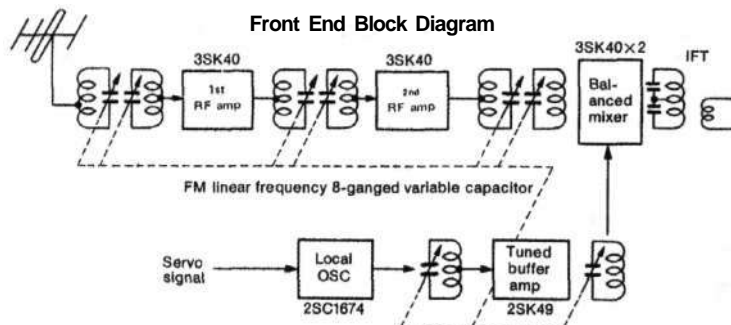

Figure 6: RF stage of the now defunct Technics "Professional Series" ST-9030 FM stereo tuner (from the good old days when front ends were front ends).
In the good old days, super tuners had super front ends. For example, the Technics ST-9030 had an eight-gang tuning capacitor and two RF amplifier stages (Figure 6). The ST-9030 had an image and spurious-response rejection of 135 dB because of this complex RF stage. The eight gangs added up the following way: One was for the local oscillator, and one was for a filter after the local oscillator to remove harmonics. Each of the RF stages had a double-tuned filter preceding it, as did the mixer. Each double-tuned section needed two gangs. A double-tuned section provides a flatter passband and a steeper rolloff rate than a single-tuned section. Today you get one RF amplifier and the equivalent of three or five gangs. The result is that some of the best tuners today have characteristic-frequency spurious-response and image-rejection ratios of only 80 dB. In addition, they may lack sufficient RF gain, especially when operated from an indoor antenna. The Magnum Dynalab "Signal Sleuth" is an extra stage of tuned RF gain which can be added to any tuner. This device can solve some difficult signal problems that some of the modern super tuners cannot handle. The Signal Sleuth is reviewed in this issue.
(5) $2f_1 \pm f_2$ test. Two stations close in frequency will produce a pair of spurious signals whose frequencies are given by this formula. For example, 105.1 and 105.7 MHz combine to produce a "spurious" at 106.3. I look for it. This is the classic "stations coming in all over the dial" or "at wrong places on the dial" syndrome. The $2f_1 \pm f_2$ test is by far the toughest of the spurious-response tests. The front end in Figure 6 may do well on the other spurious-response tests and yet do very poorly on this one because the extra RF stage could cause intermodulation to get worse.